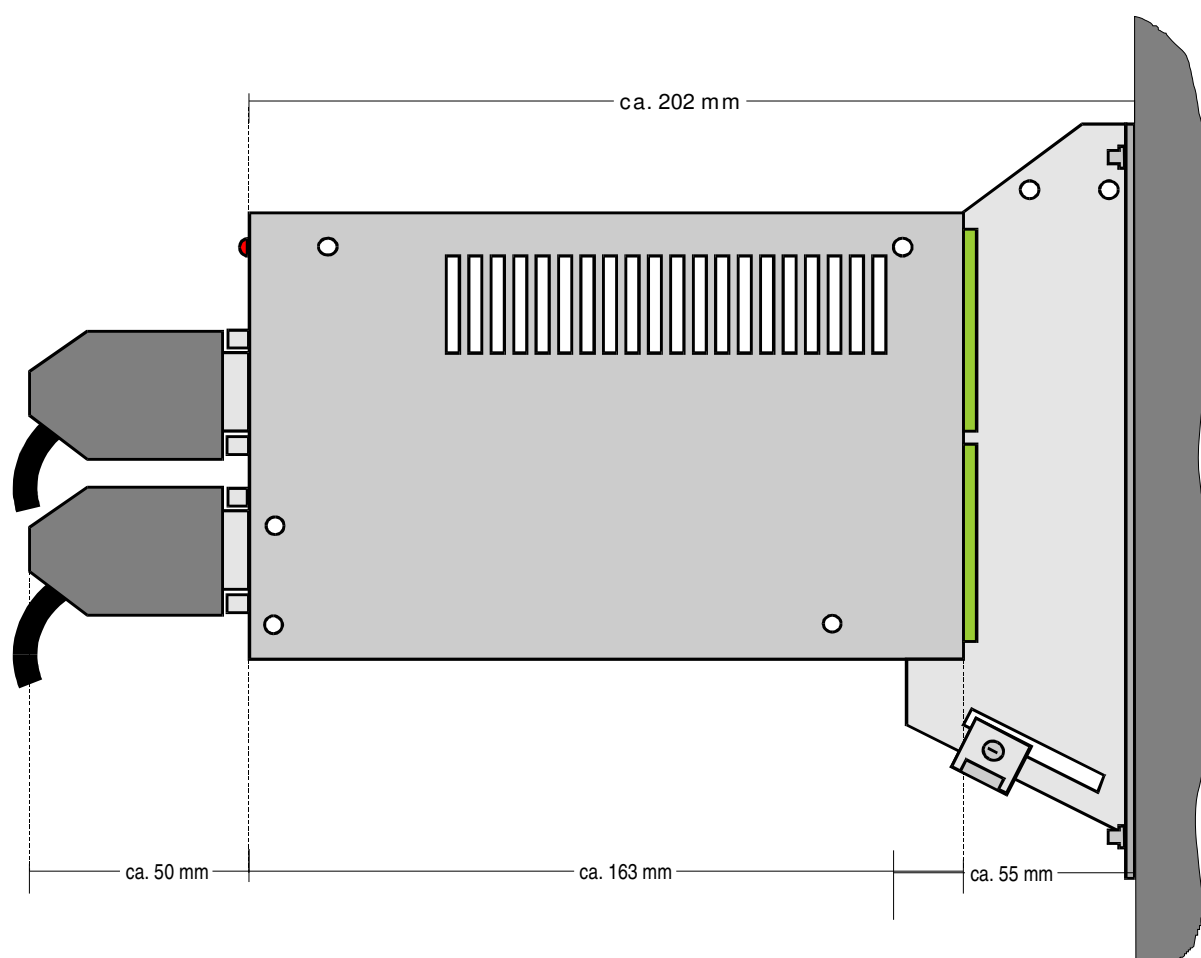

Figure 36: Side view RBD 325-4/6S
- ❖ The mounting possibilities are horizontal or vertical so you can use the mounting plate shown in Figure 36.